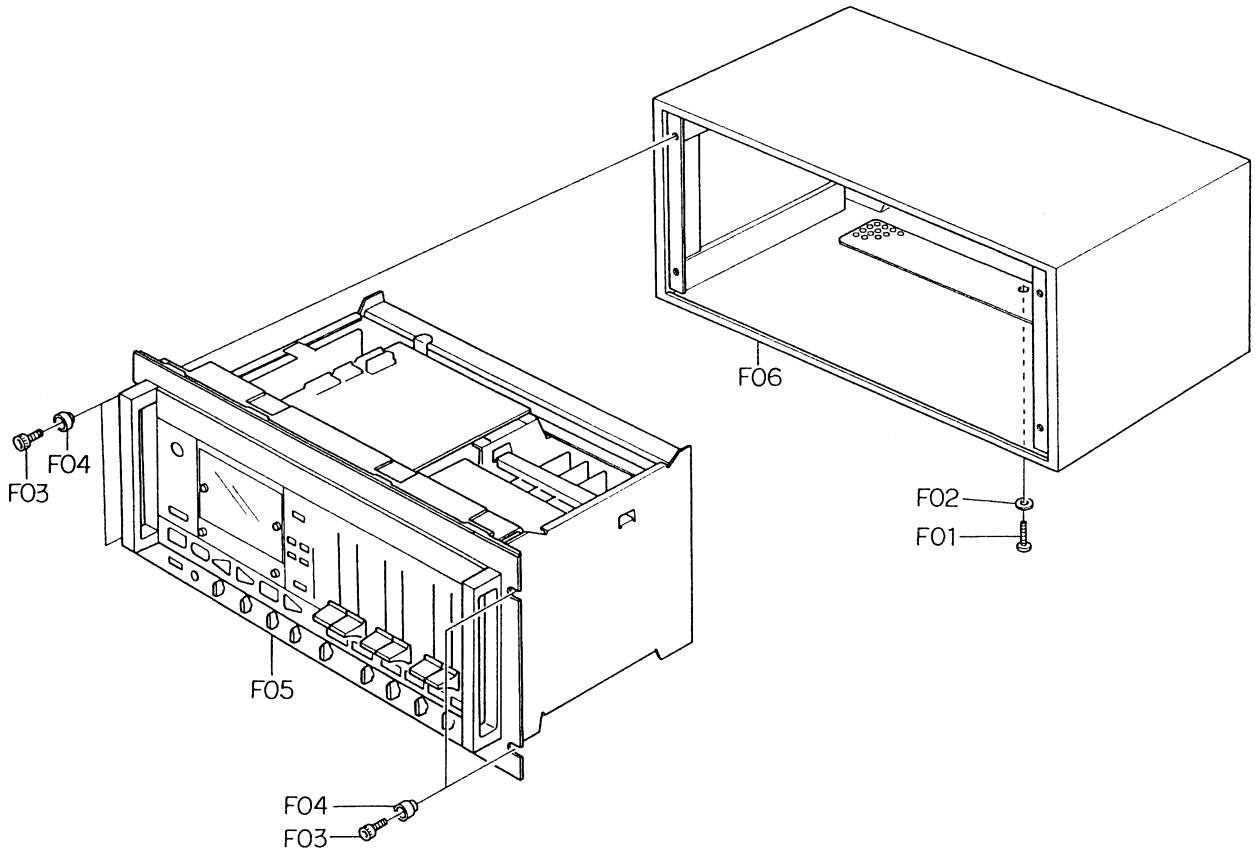

Fig. 2.1
Refer to Fig. 2.1.
- (1) Refer to Fig. 2.1. Remove Cabinet Ass'y referring to item 2.1.
- (2) Pull out F03 (Pitch Control Knob) and F04 (Function Switch Knob).
- (3) Remove F05, F06 and F07, then disassemble F08 (CPU P.C.B. Shield Plate).
- (4) Remove F09, then turn F10 (CPU P.C.B. Ass'y) over as an arrow head.
- (5) Remove F11 and F12, then turn F13 (Rear Panel
- (2) Remove F14, then disassemble F15 (P.C.B. Holder Ass'y).
- (3) Pull out F16 (Record Eq. Amp. P.C.B. Ass'y), F17 (Detector P.C.B. Ass'y), F18 (Record Dolby NR P.C.B. Ass'y) and F19 (Playback Amp. & Dolby NR P.C.B. Ass'y).
- (2) Remove F01, F02, F03 and F04, then disassemble Rear Panel Ass'y (including 6 connectors and wires connected by wrapping).